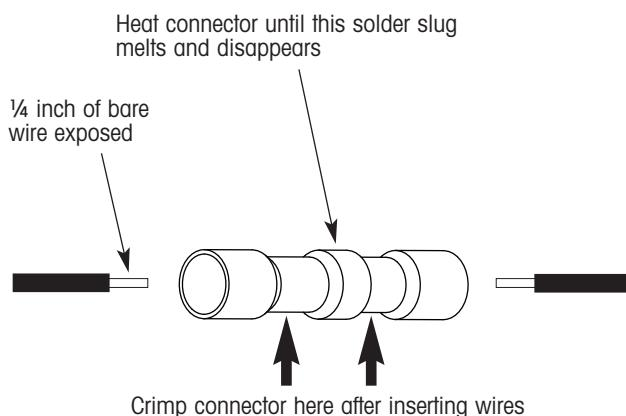

Figure 3. Crimp and solder connection details
To make wiring splices, you must use the crimp and solder connectors provided in the kit (figure 3).
1. Strip the wire insulation so that $\frac{1}{4}$ -inch of bare wire is exposed (figure 3).
3. Using a proper crimping tool or needle-nose pliers, crimp the connector in two places as shown in figure 3.